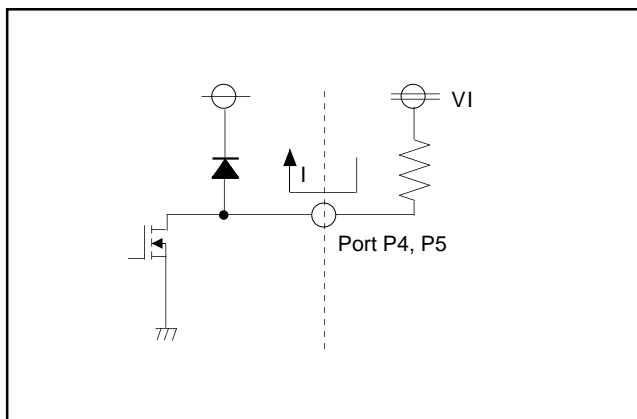

Fig. 55 Notes on use of ports P4 and P5
- 4 : When applying a voltage through a resistor as shown in the figure 55, VI > VCC may be accepted if the current is 1 mA or less.